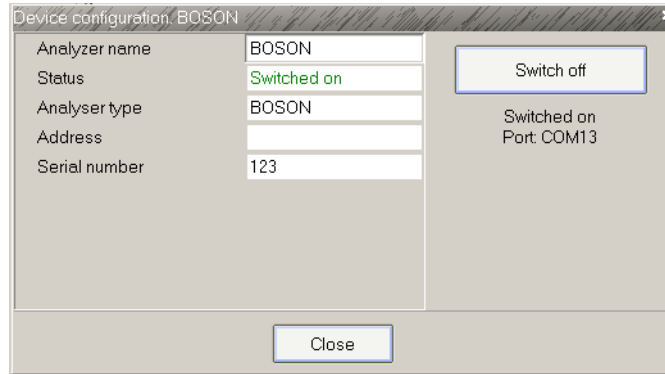

Figure 11. Device configuration window view
**Switch on analyser** allows switching on all the available analysers at once. It means that if analysers are physically connected to the PC and parameters of each connection are entered in the program, with this item you can skip pressing **Switch On** in the **Device configuration** window (see Fig. 11) for each spectrometric tract separately.
When you press  on the toolbar or select **Device configuration** in the context menu of the **Analysers** column on the **Device Manager** panel, a window shown on Figure 11 will appear on the display.